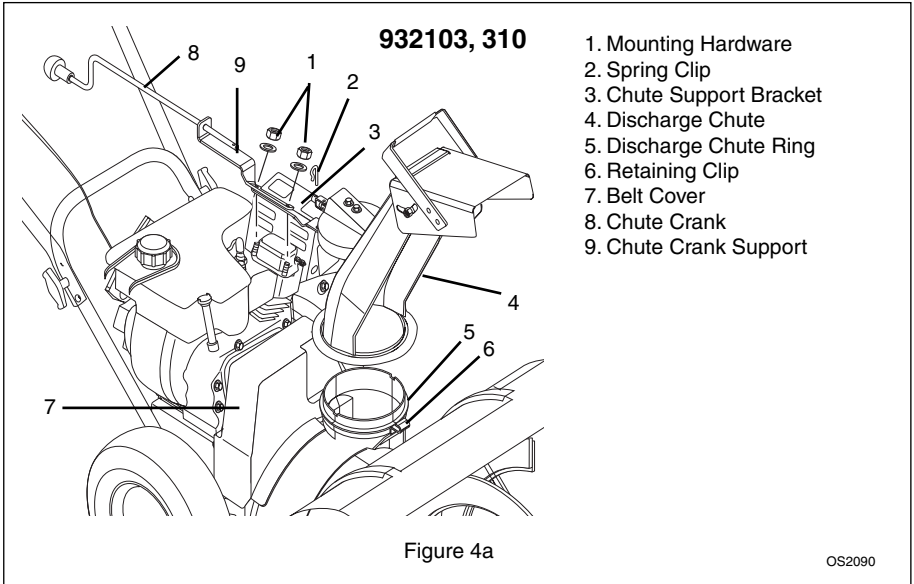

Figure 4a
1. Grease discharge chute ring if not already greased (Figure 4a).